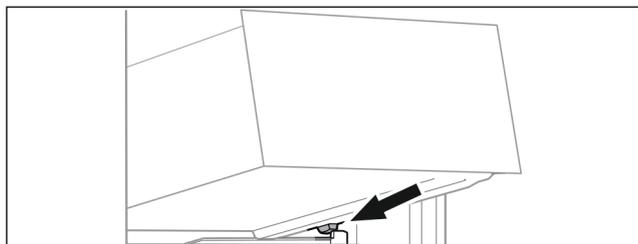

Fig. 20
- ▶ Place drawer on the moulded ribs behind the stoppers with the drawer tilted up at the front Fig. 20 ().